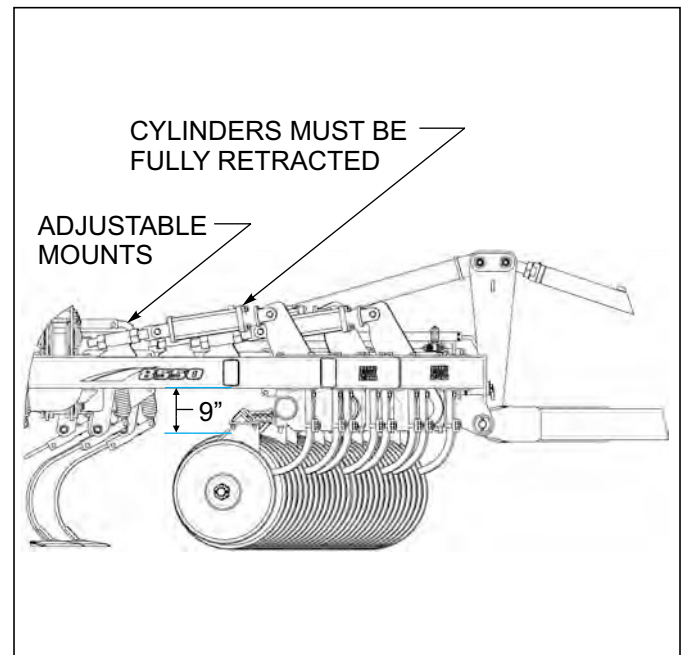

Figure 3-15: Disc Gang Operation
8. Once the cylinders are installed, and are fully retracted- the gangs can be leveled. Measure from the bottom of the frame tubes that go from front to rear to the top of the disc blades and adjust the mount at the base of the cylinder to make this dimension 9" on each gang (See **Figure 3-15.**) Wrenches are provided on the center frame to adjust this with. After gangs are level, tighten the 3/4-10 x 3 bolts and 3/4 lock nuts in the slotted holes of the ball joint links on the center frame. This will keep the center frame gangs in time with each other.